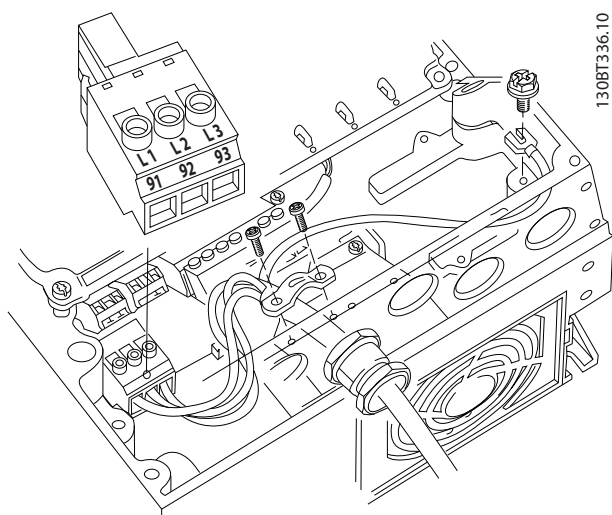

Figure 2.11 Connecting to AC Line Power
- Connect 3-phase AC input power wiring to terminals L1, L2, and L3 (see *Figure 2.11*).